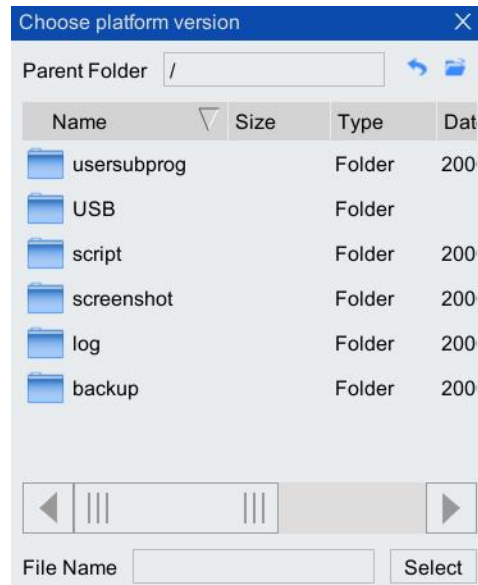

Figure 8-53 "Select platform version" list box
- Step1. On the main interface of the teach pendant, click "System > System and Update > Version Update" option, the "Choose Platform Version" list box pops up, as shown in Figure 8-53.